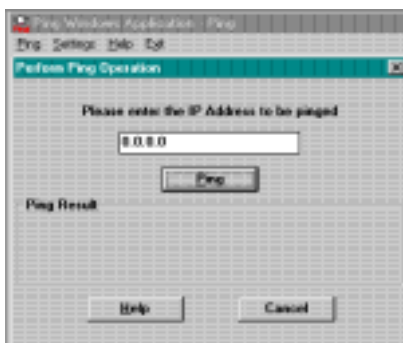

Figure 11-3. Ping Operation Window
2. Figure 11-3 may appear. Select "Browse" to find this file.